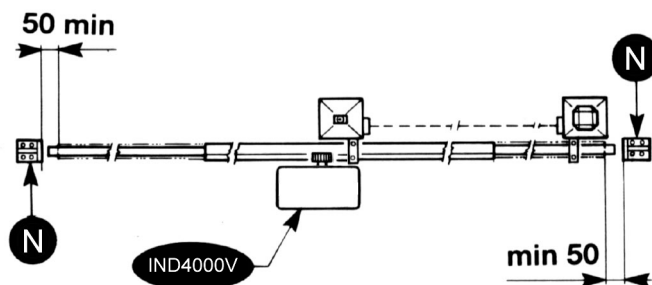
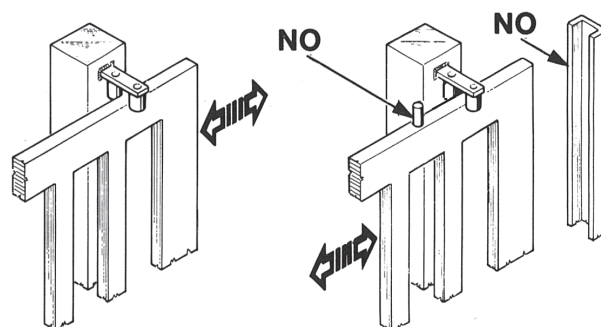

FIG. 2
FIG. 3
- Besides the electrical or mechanical limit switches available on the operators, there must be, on both ends of the installation, a fixed mechanical stopper which stop the gate in the unlikely event of ill functioning of limit switches on the operators. For this reason the fixed mechanical stopper must be of an adequate size to withstand the static and kinetic forces generated by the gate (N) (Fig.2).
- The guide must be provided with two mechanical stops at its ends (N) (Fig. 2). Gate columns shall have anti-derailment guides on their top (Fig. 3), to avoid the unintentional gate release.
Note: Eliminate those mechanical stops of the kind described by figure 3. No mechanical stop shall be on top of the gate, since mechanical stops are not safe enough.